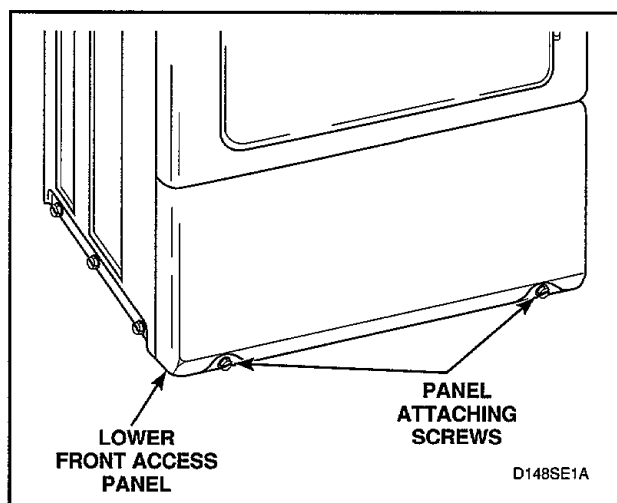

Figure 53
- While supporting the lower access panel, remove two screws from bottom edge of lower front access panel, *Figure 53*.